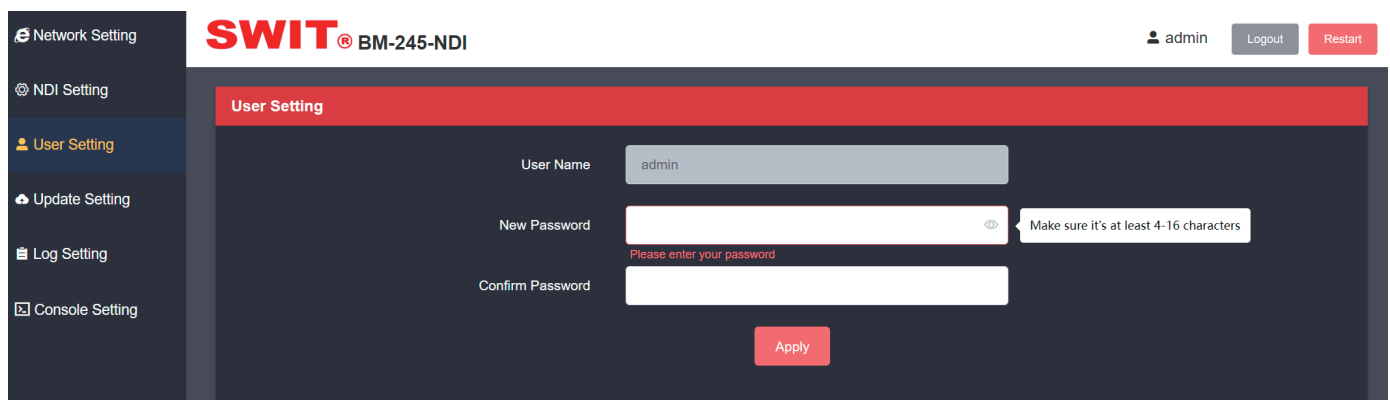

Fig.8
4. Click "Apply" to change the password successfully. You can click the "Little Eyes" icon to view the password. The password must be blank and cannot contain more than 16 characters, and cannot contain Chinese characters. See Figure 8 below for details.